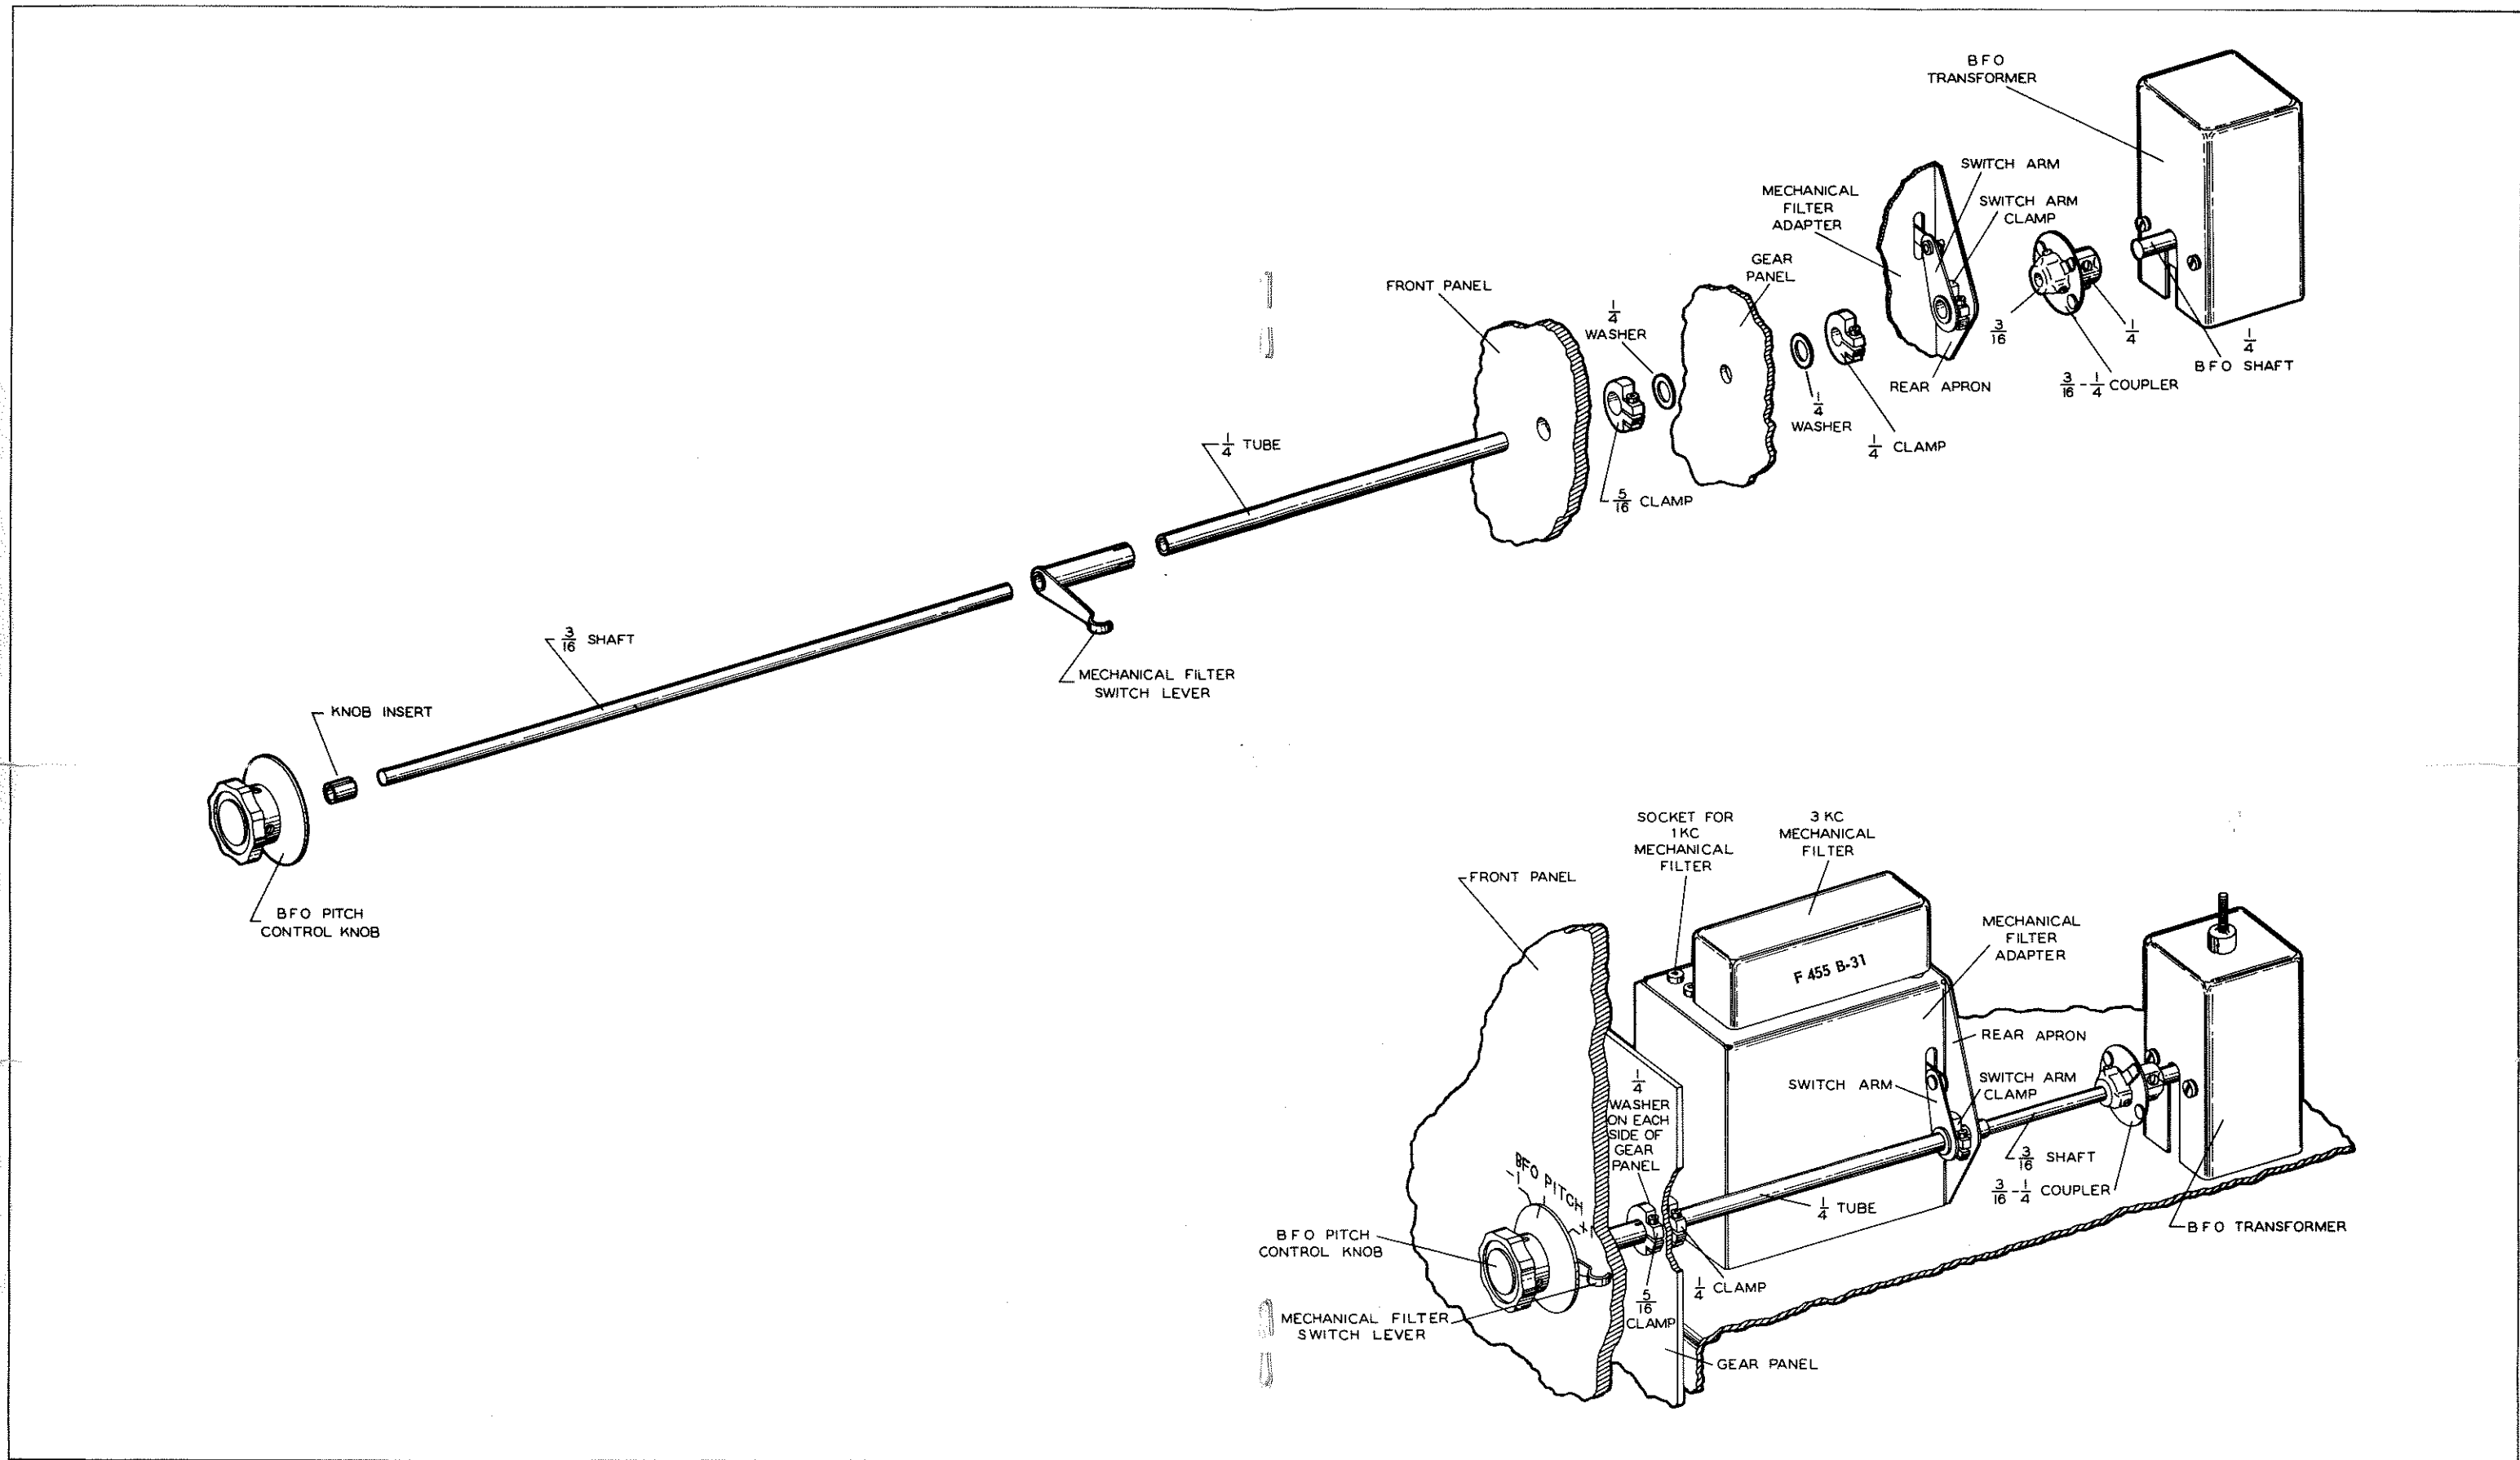

Figure 2. Mechanical Assembly
15. Swing the switch arm on the mechanical filter adapter down so that its shaft hole lines up with the hole in the rear apron of the mechanical filter adapter. Install the mechanical filter adapter on the chassis as shown in figure 2. Be sure that the
switch arm is down toward the chassis as shown in figure 2, as it may be impossible to move it into position after the mechanical filter adapter is installed.
- 17. Push the long quarter-inch tube through the front panel about one-half inch then slide the clamp with the five-sixteenths hole on the shaft followed by a one-fourth inch washer. Be sure the clamp is oriented as shown in figure 2.
shaft followed by the quarter-inch clamp. Make sure the clamp is installed properly so that it can be positioned as shown in figure 2.
- 23. Install the mechanical filter switch lever on the front panel as shown in figure 2. The hollow shaft fits through the panel and inside of the five-sixteenth inch clamp. Tighten this clamp.
- 24. Push the top of the mechanical filter adapter switch arm in toward the mechanical filter adapter to the position shown in figure 2.